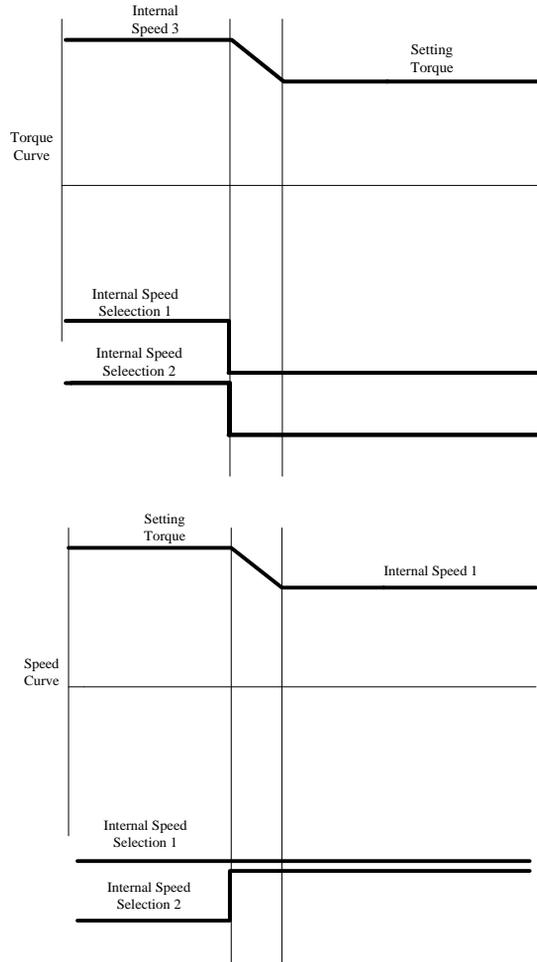

Fig 6.5.9 Speed mode and torque mode switching sequence diagram
(1) Internal register speed and torque switching mode, internal register speed and external analog torque switching mode show as figure 6.5.9, after servo is enabled, servo runs as speed mode when internal speed selection signal is enabled; servo runs as torque mode when internal speed selection signal is